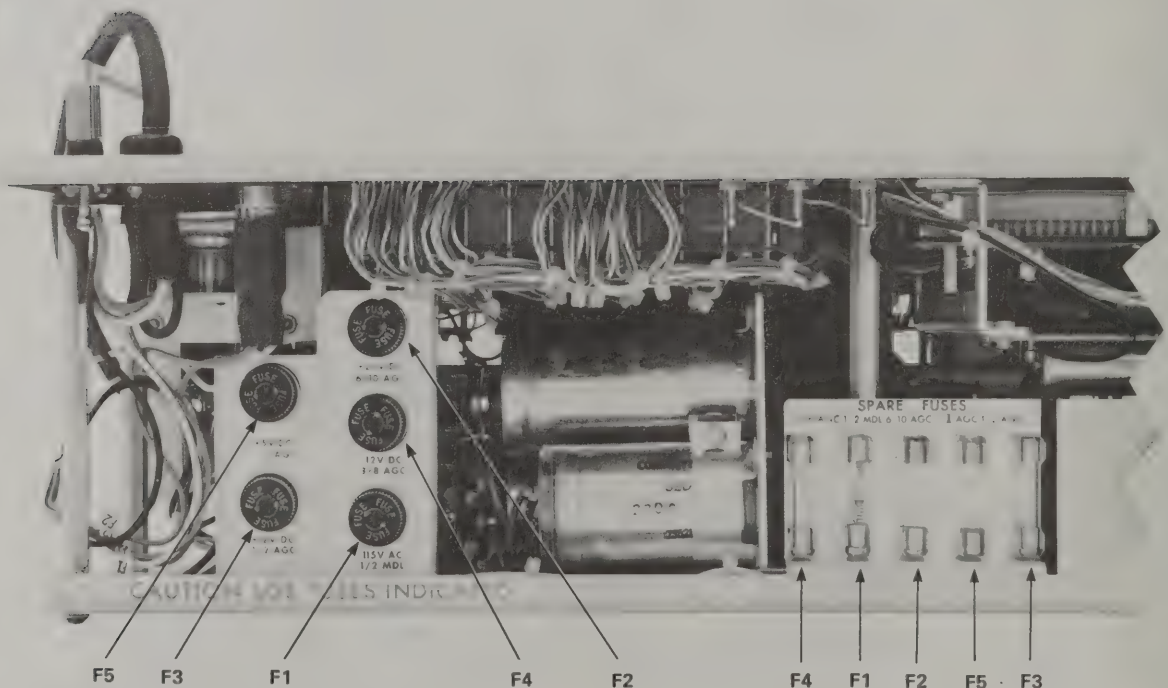

Figure 6-2. Back of Chassis Showing Fuse Panel and Spare Fuse Board
**6.14** The fuse panel is located at the left rear of the chassis (Figure 6-2). The five fuses are mounted in twistlock fuse holders. Spare fuses are mounted in spring clips on a separate board. Both the fuse panel and spare fuse mounting board are marked as to fuse type and value. To gain access to the fuses for checking and replacement, proceed as follows: